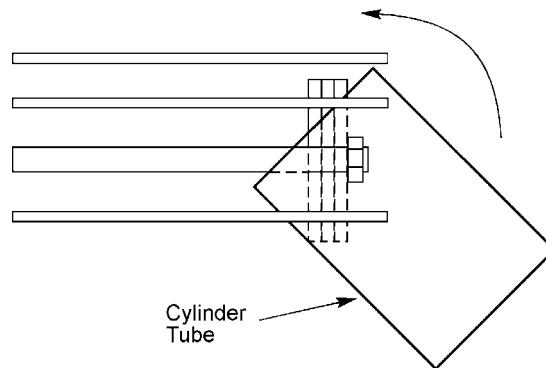

Figure 3—Installing Cylinder Tube
- Lubricate the inside of the cylinder tube, then slide it onto the piston. Start the tube at a 45-degree angle and rotate the tube onto the piston. See Figure 3.